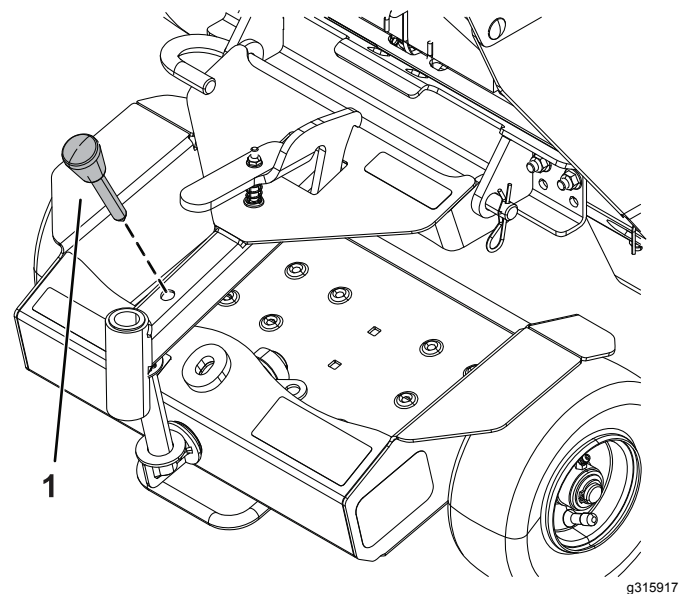

Figure 6
4. Rotate the platform forward and secure it using the transport pin (Figure 6).
5. Grab the handle and raise the sulky until it latches on the bracket (Figure 6).